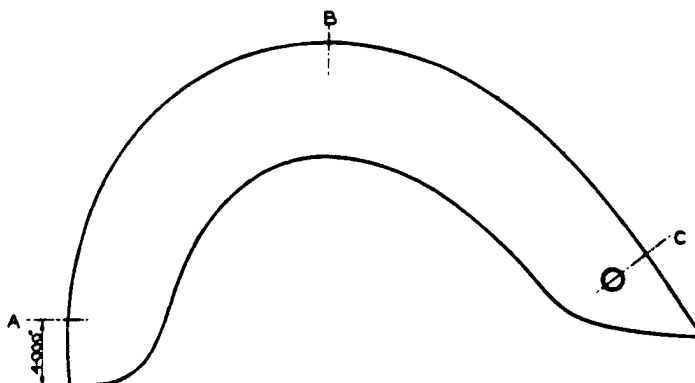

FIG. 3.
- (ii ) Mark off positions of 'A' and 'B' tongue centres on the outer edge of the wheel fairing as shown on Fig. 3. 'A' centre should be 4.000" from the bottom of the leading edge and 'B' centre equidistant from 'A' and 'C' centres on the outer edge of the fairing.